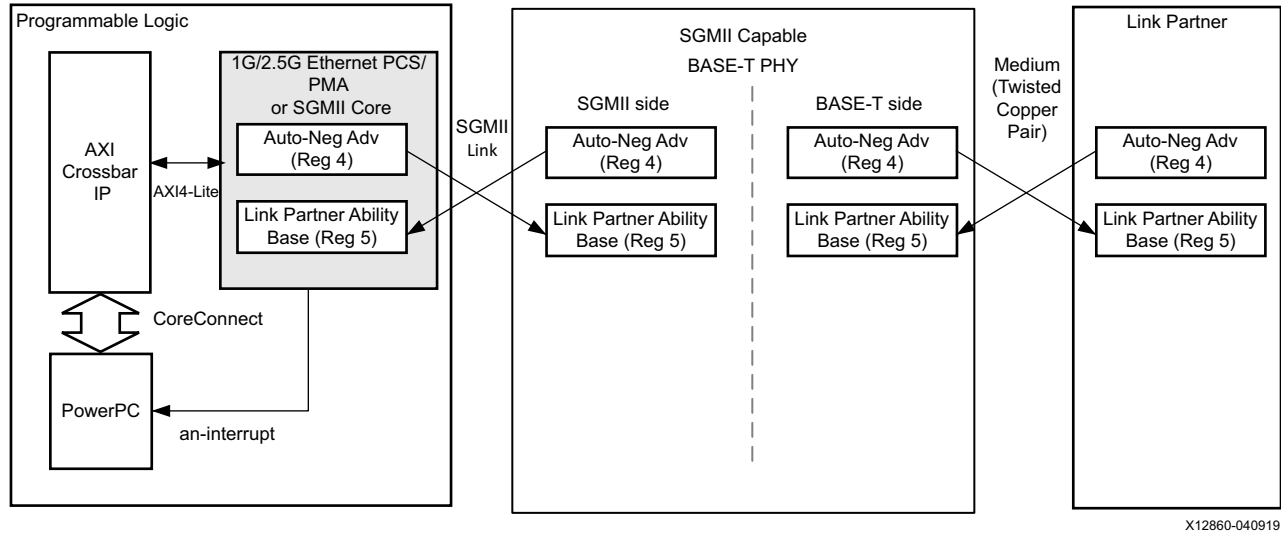

Figure 3-16: SGMII Auto-Negotiation
Figure 3-16 shows the operation of SGMII Auto-Negotiation as described in Overview of Operation. Additional information about SGMII Standard Auto-Negotiation is provided in the following sections.
- The PHY performs Auto-Negotiation with its link partner using the relevant Auto-Negotiation standard for the chosen medium (BASE-T Auto-Negotiation is shown in Figure 3-16, using a twisted copper pair as its medium). This resolves the operational speed and duplex mode with the link partner.